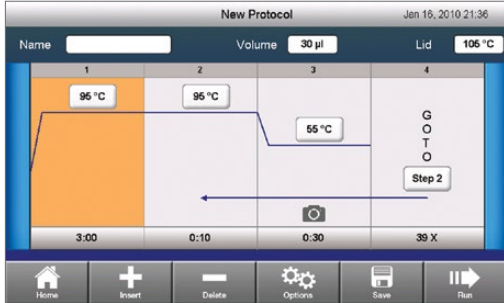

Fig. 9. Default real-time PCR protocol.
- To create a new run, touch **New Protocol** in the home screen to open a New Protocol template (Figure 9). Touch the **Name** field, and type a protocol name to save